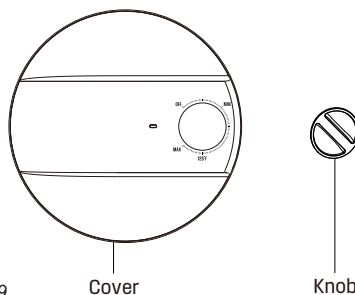

Fig. 9
The temperature of the hot water is adjusted by rotating the knob (Fig. 9) located on the front cover. Temperature range is 55-145 °F.
- Remove knob (Fig. 9) which covers the Phillips screw, and unscrew the Phillips screw.
- The cover (Fig. 9) can now be removed by slightly rotate. When reassembling, work in the opposite way being careful to insert the tongue of the cover into the slot.